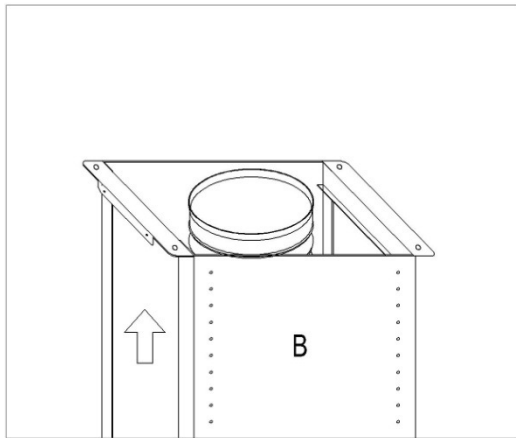

Fig.6
- Suction **version**: fix the flexible pipe to the prepared air evacuation hole (Fig.6).